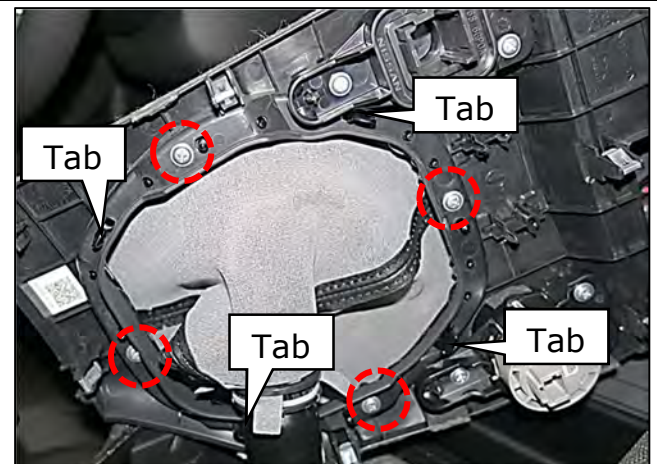
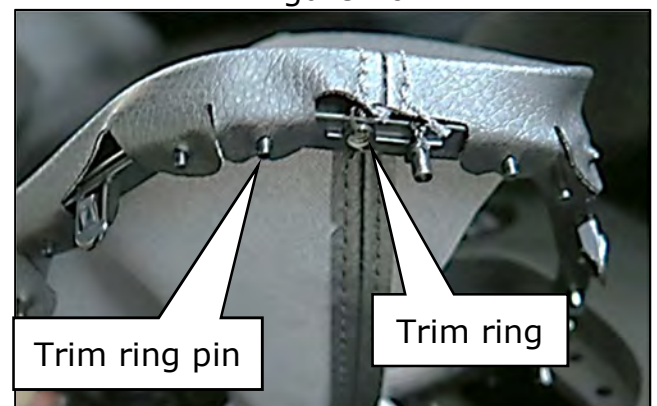

Figure 26
Figure 27
- b) Remove the (4) screw shown in Figure 26
- c) Carefully push upward on each of the (4) tabs
- g) Remove the shift boot trim ring from the shift boot by lifting the shifter boot off of each of the trim ring pins (Figure 27)